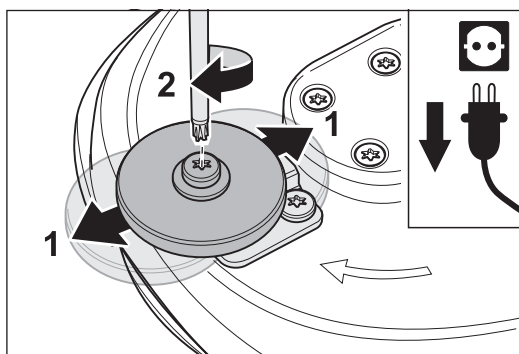

Fig. 70 Push the wall-protecting roller (1) and tighten the screw (2).
- 3 Push the wall-protecting roller into the position you require (fig. 70, 1) and retighten the screw (fig. 70, 2).